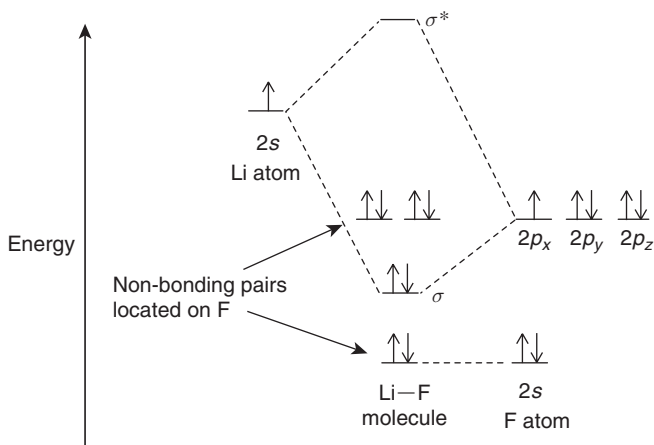

Figure 19 MO diagram of LiF.
2. **Li–F molecule:** The electrons in the Li–F bond are quite close in energy to fluorine's  $2p$  orbitals. The bonding molecular orbital is primarily obtained by the interaction  $2s$  of lithium and  $2p_x$  orbital of fluorine. The electrons in  $2p_y$  and  $2p_z$  orbitals on F that cannot bond with Li remain on F as lone pairs since fluorine is more electronegative than lithium. The electrons are more stable with lower energy, when they remain as lone pairs on fluorine rather than on lithium. So the MO diagram (Figure 19) predicts that the bond should be polarized towards fluorine.